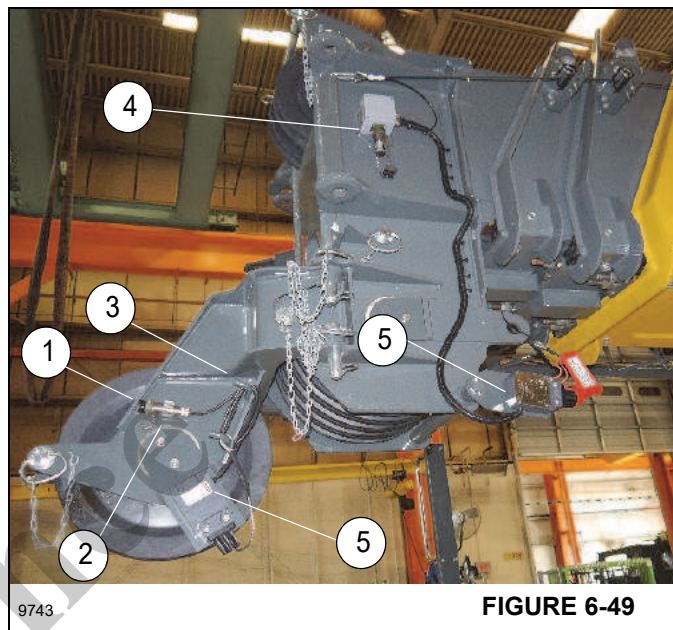

FIGURE 6-49
1. Pull the plug (1) of the connecting cable from the storage clip (2), (Figure 6-49)
2. Unwind the connecting cable from the holders (3), (Figure 6-49).
3. Remove the dummy plug and insert the plug of the connecting cable into the socket on the main boom nose junction box (4), (Figure 6-49).
4. Guide the hoist rope through the anti-two block switch weight (5), (Figure 6-49) (not shown).
2. Wind the connecting cable onto the holders (3), (Figure 6-49).
3. Insert the plug of the connecting cable into the storage clip (2), (Figure 6-49).